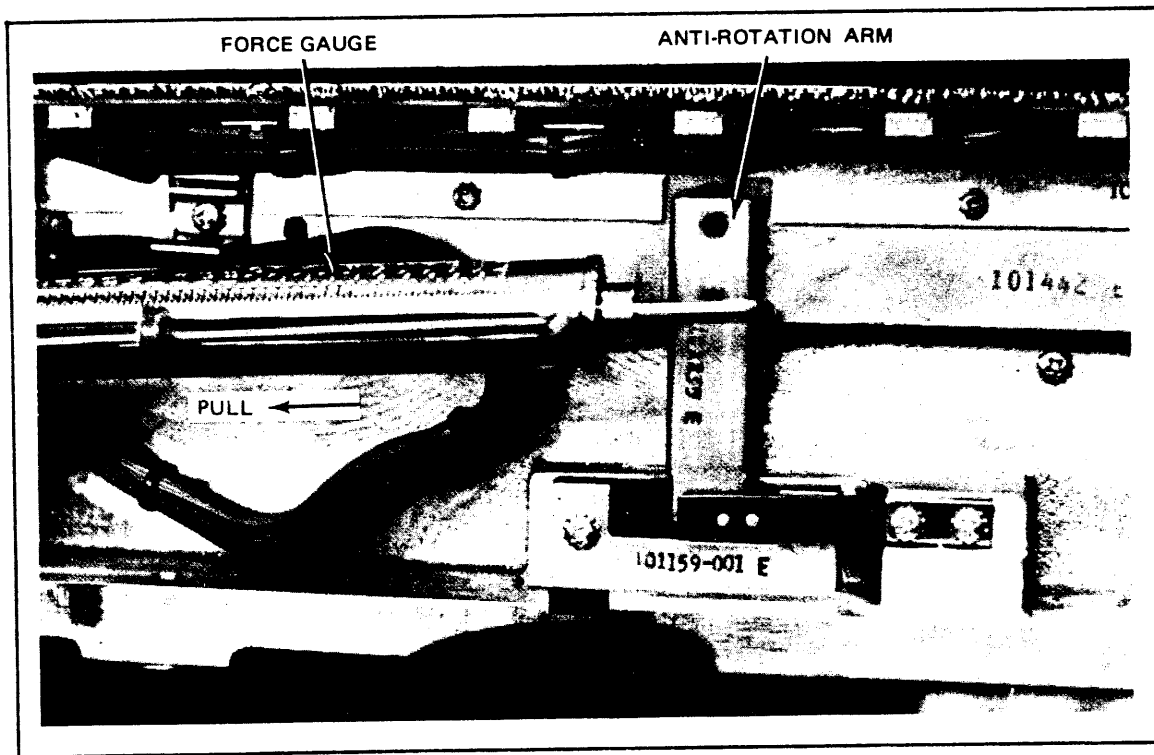

Figure 56 Checking Shuttle Spring Force
- e. Set cam exactly at its low-lobe position, fully extending springs (figure 56).
- f. Hook tip of force gauge over anti-rotation arm and pull gauge to the left, as shown in figure 56. Shuttle cam follower should just separate from the cam with an applied force of 12 pounds  $\pm$  2 pounds. To detect separation, hold 0.003-inch shim stock between